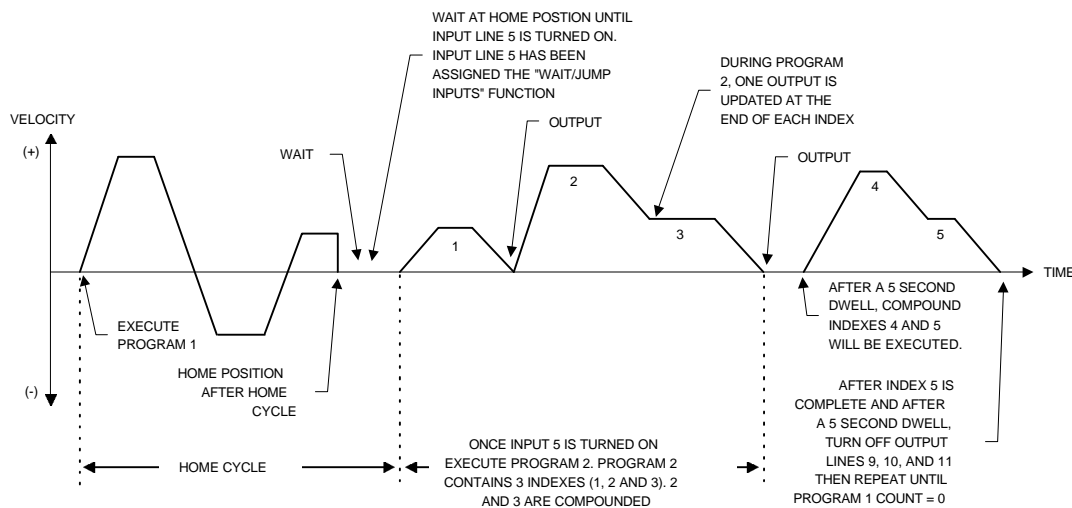

Figure 91 Motion Program Example
You may use any index or program which you have previously created to build your program. The example motion program shown in Figure 91, "Motion Program Example," on page 116 could be accomplished with one program; however, two programs have been used to show the use of the Call Program (P) function. In this example, program numbers 1 and 2 are used and index numbers 1, 2, 3, 4, and 5 are used.